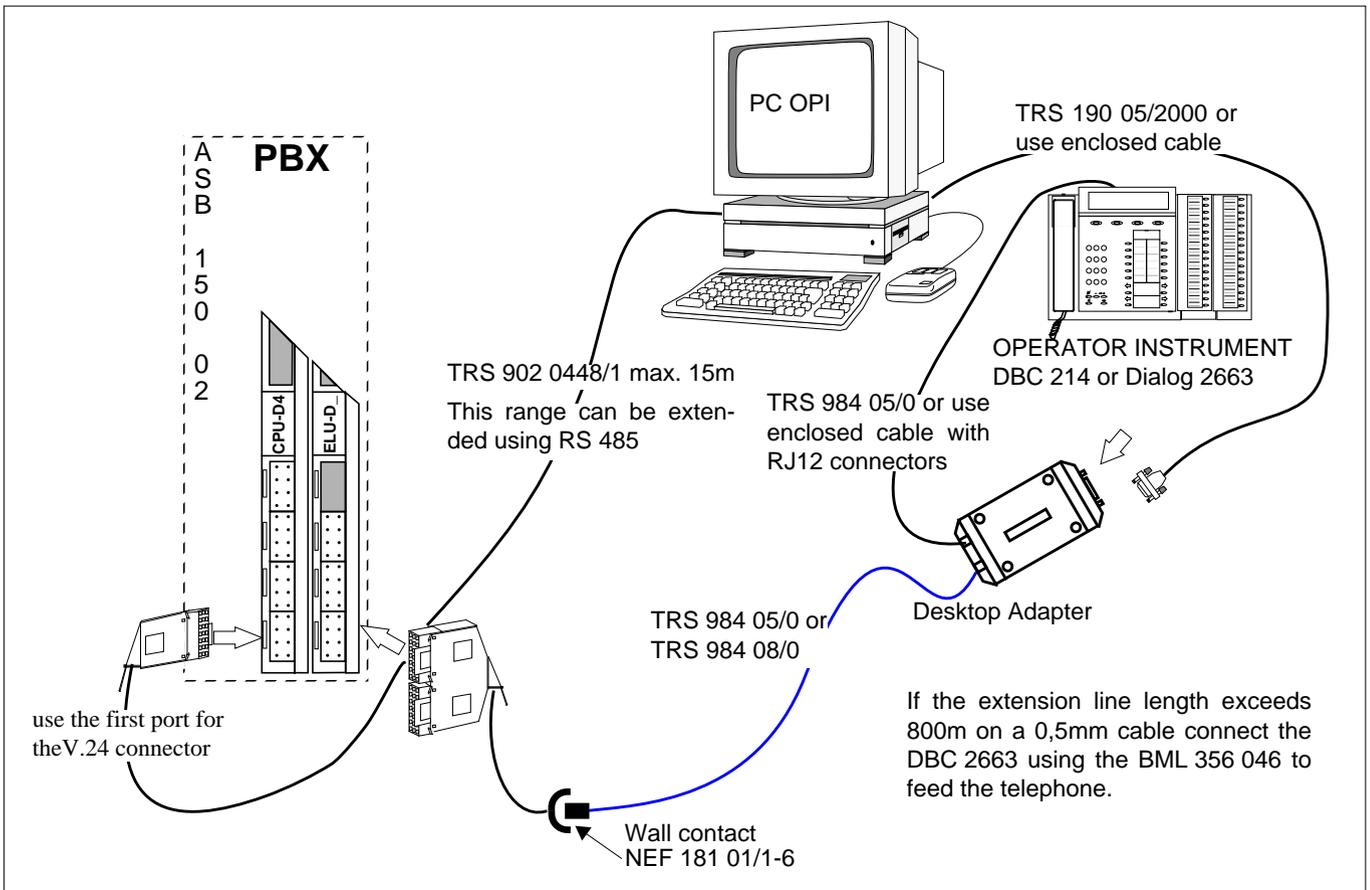

Figure 1 Electrical connections for PC OPERATOR equipment
1. Make sure the electrical connections have been done as shown in figure 1 on page 2.